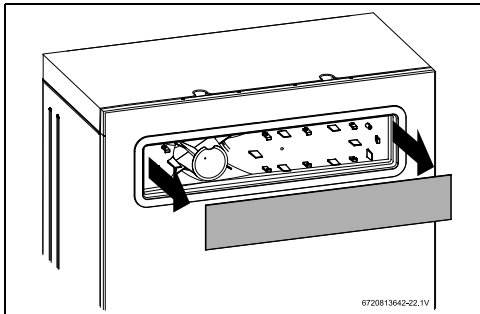

Fig. 50 Remove protection
- ▶ Remove the protection from the front cover, see fig. 50.